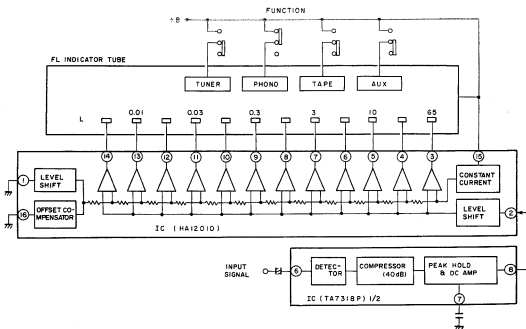

Fig. 1 Indicator circuit (SA-720, 620, 520)
An outline of the FL tube drive circuit is shown in Fig. 1. The output circuit signal is applied to pin no.6 (4) of the IC (TA7318P-A). The IC contains a detector circuit, compressor (40dB), and peak hold circuit for both left and right channels. The dynamic range of the signal is thus contracted by 40dB to obtain a "peak held" DC voltage.